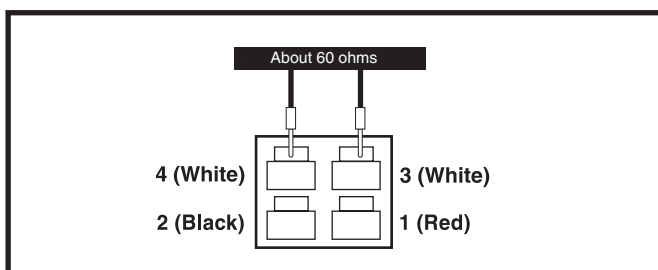
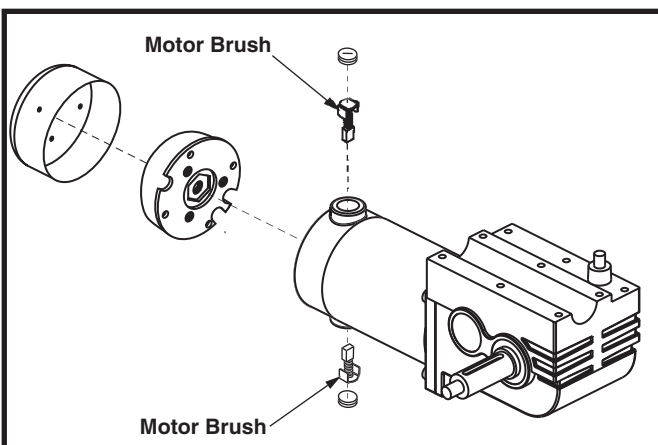

Figure 26. Connector 8a
Figure 27. Motor Brush Location (typical)
6. Measure resistance across pin 1 (red) and pin 2 (black) on connector 8a. **See figure 26.**
- If your multimeter indicates 0.5 - 1.5 ohms, then replace the power interface harness (2) and retest the system.
7. Remove the brushes from the left motor and inspect them. **See figure 27.**